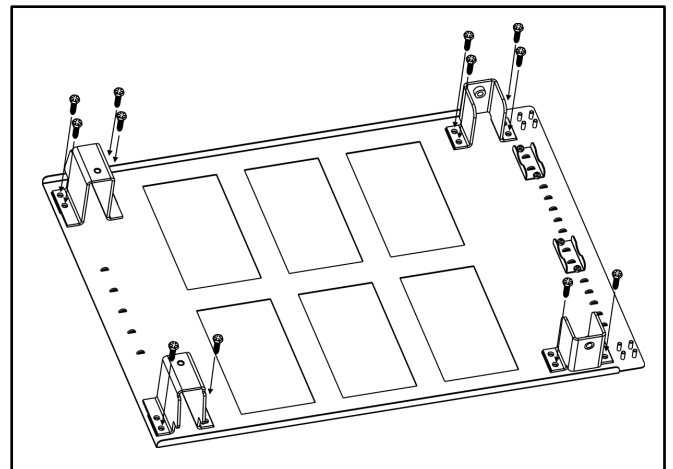

Figure 4. Mounting screw locations (swing-out mechanism omitted for clarity)
- ① Select an appropriate location to install the swing-out frame. Mounting to a 3/4" thick backboard with the included hardware ensures that the combined weight of the SOA-10U, wall rack, and equipment can be supported. Maximum weight capacity of the SOA-10U is 200 pounds.
- ② Determine the desired orientation. The symmetrical design of the SOA-10U frame allows it to be installed for the WR-10U or WR-15U rack to swing left or right. Four screws will be used in each of the top corners and two screws in each of the bottom corners.
- ③ Tape the drill template to the wall ensuring it is level. The drill template provides information for multiple products. Be sure to use hole symbol "B" for swing left orientation or "E" for swing right orientation. Drill all twelve 3/16" pilot holes.
- ④ The swing-out feature of the SOA-10U is held shut by two 1/4"-20x1" hex-cap screws, one in each of two latches on the frame. Remove both screws and set them temporarily aside. This will allow the swing-out portion to be opened or closed as needed for access to remaining mounting holes.
- ⑤ Hold the back of the frame firmly against the mounting surface and install twelve of the included 1/4" x 1" wood screws into each of the upper corners (Figure 4).
- ⑥ Reinstall the two 1/4"-20x1" screws (removed in step 4) that hold the swing-out portion closed.